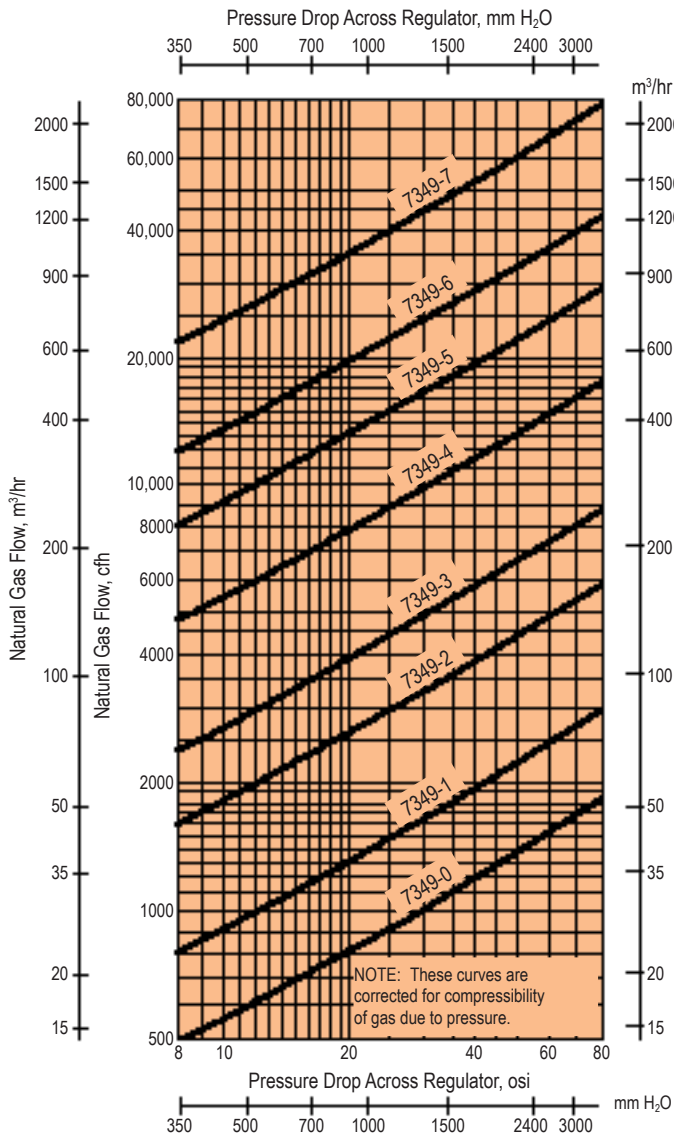

Figure 3. Capacities of 7349 and 7349-S Regulators.
**Selection.** On Figure 3, locate the intersection of lines corresponding to maximum required gas flow and pressure drop available across the regulator, move up to the diagonal line immediately above that point, and select the regulator whose designation appears on that line.
When selecting a regulator for other than natural gas, divide required flow by the appropriate gas gravity factor (Table A) and use the resulting equivalent flow to size the regulator from Figure 3 and downstream pipe from Figure 4.
Pressure drop across the regulator is 80 – 15 = 65 osi. From Figure 3, select a 7349-7-G (or 7349-7-SG).
Regulator outlet pressure required is  $2 + 3 + 1 = 6$  osi, so regulator drop is  $15 - 6 = 9$  osi. Natural gas flow equivalent to 1950 cfm coke oven gas is  $1950 \div 1.22 = 1600$  cfm (from Table A). From Figure 3, a 7349-2-KA or 7349-2-SKA is required. From Figure 4, 1600 equivalent cfm of natural gas flowing through 10 feet of 1 1/4" pipe (same pipe size as regulator connections) will take a pressure drop of  $3.3 \div 10/100 = 0.33$  osi, which is well within the originally assumed 1 osi.